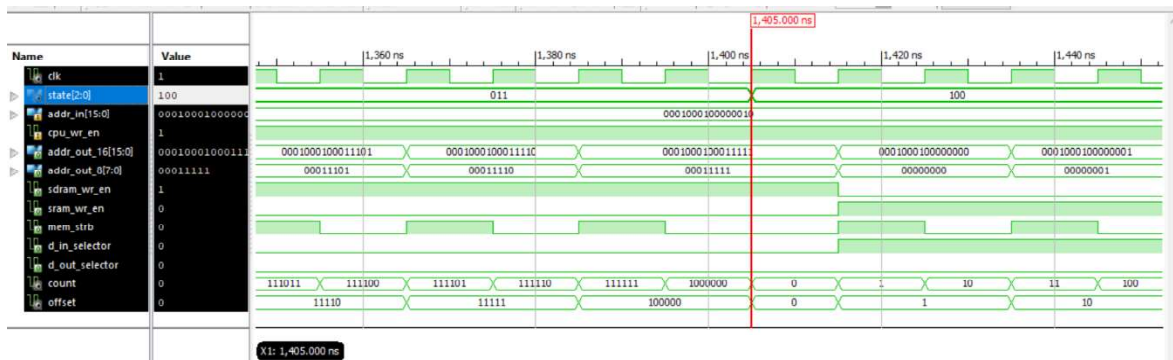

Figure 5.1.5: End of Block Replacement
Figure 5.1.5 shows the end of the block replacement (011) state, jumping directly to load the specified block in from the DRAM to the cache (100).